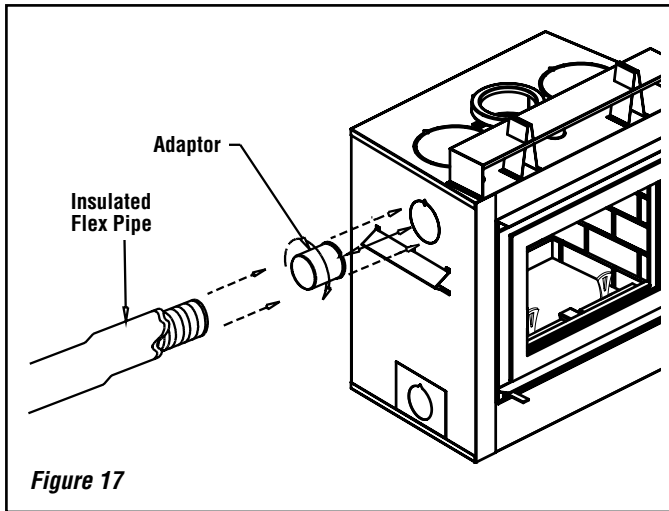

Figure 17
- A) Remove knock-out plate and cut insulation the adaptor at the back and/or the side of the fireplace. Fix the adaptor by twist-locking it to the fireplace. You can use more than one outlet on the fireplace (*see Figure 17*).